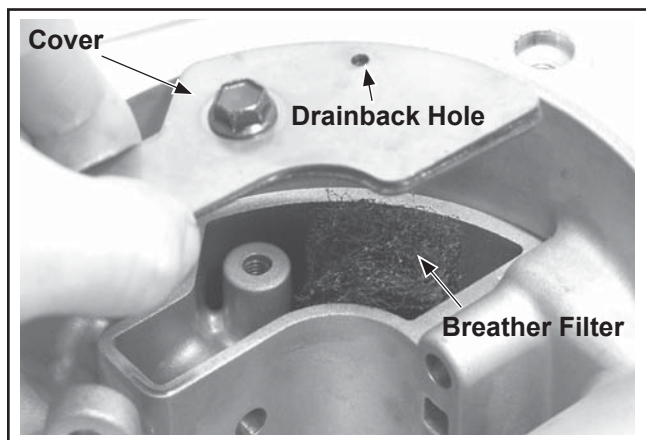

Figure 10-3. Installing Breather Filter and Cover.
1. Install the breather filter between the two ribs inside the inner breather chamber. See Figure 10-3.
2. Make sure the sealing surfaces are clean and free of nicks or damage. Install a new breather cover gasket and the breather cover onto the chamber. See Figure 10-3.
3. Secure the breather cover with the M6 hex flange screw. Torque the screw to **10.7 N·m (95 in. lb.)** into a new, cored hole, or **7.3 N·m (65 in. lb.)** into a used hole. See Figures 10-3 and 10-4.